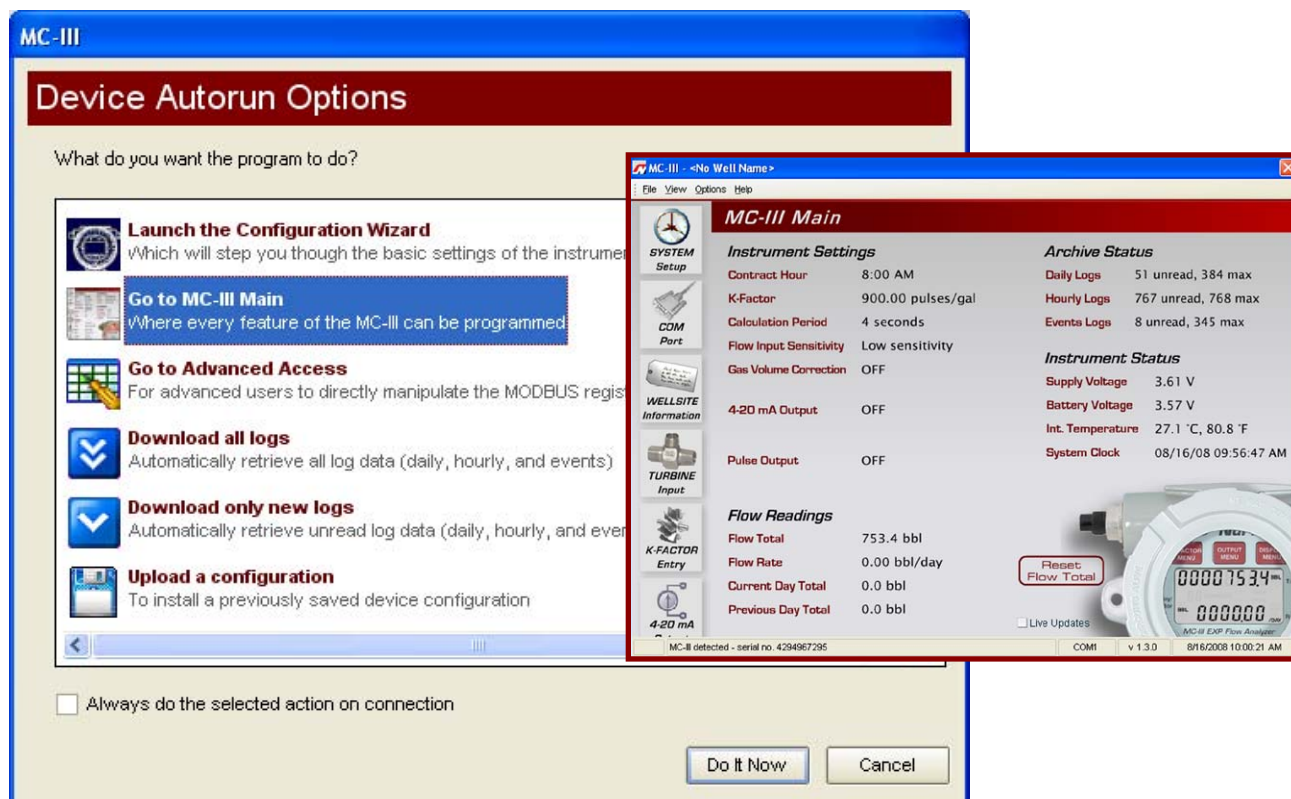

Figure 4.12—MC-III Main configuration option for complete access to configurable parameters
- The MC-III Main screen (Figure 4.12, page 53) gives users complete access to all configuration parameters.